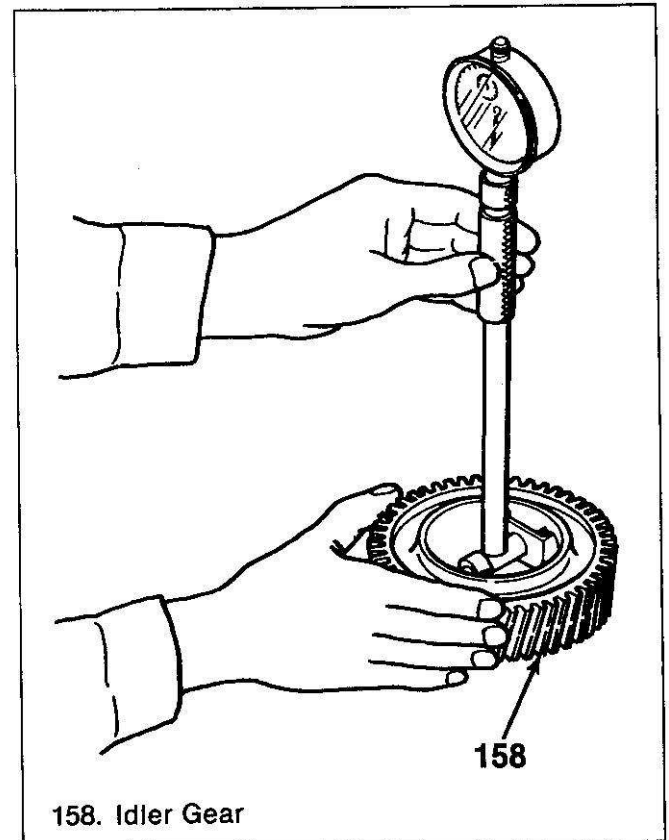

Figure 84. Measuring the Idler Gear Inside Diameter
- Idler gear bushing inside diameter, using an inside micrometer (figure 84).